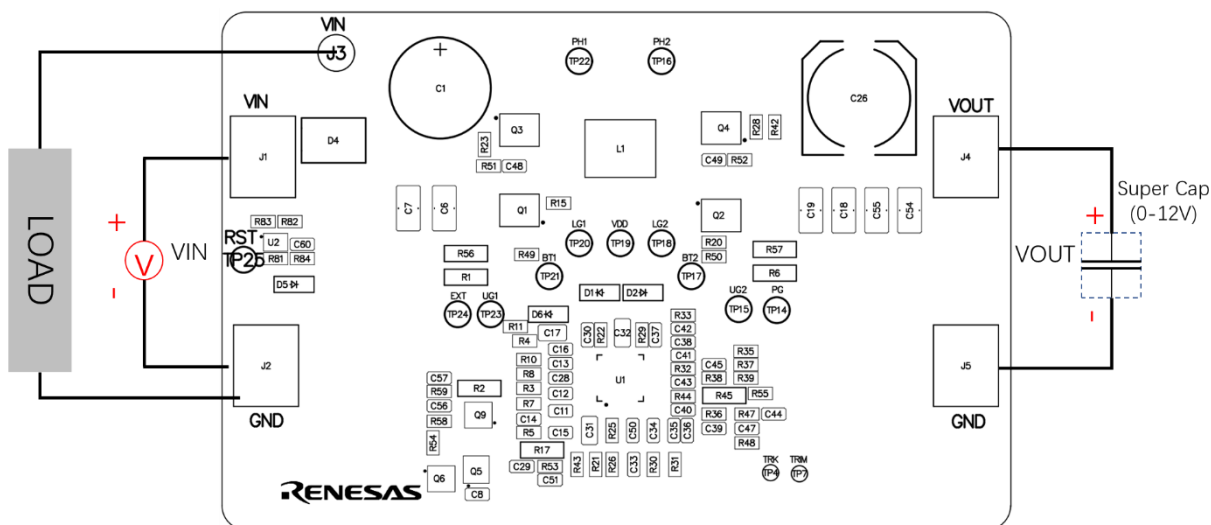

Figure 2 Connection diagram
- 1, Connect the power supply to the input terminals VIN (J1) and GND (J2). Connect the load terminal to the output VIN (J3) and GND (J2). Connect the super cap to the output VOUT (J4) and GND (J5). Make sure the setup is correct prior to applying any power or load to the board. Refer to Figure2.
- 3, Verify the load voltage and use oscilloscope to monitor the supercapacitor voltage. Refer to Figure 2.
- 5, Verify the load voltage and use oscilloscope to monitor the supercapacitor voltage. Refer to Figure 2.